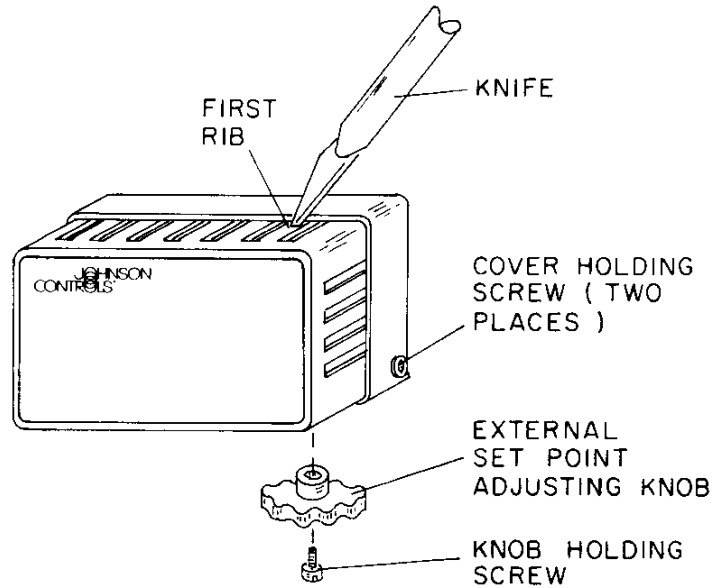

Fig. 7
To install the external set point adjustment knob, refer to Fig. 7 and proceed as follows:
2. Pass the set point adjustment knob through the access hole in the cover. **Note: If the cover does not have an access hole, one can be made by cutting away the first rib over the set point adjustment dial (see Fig. 7).**